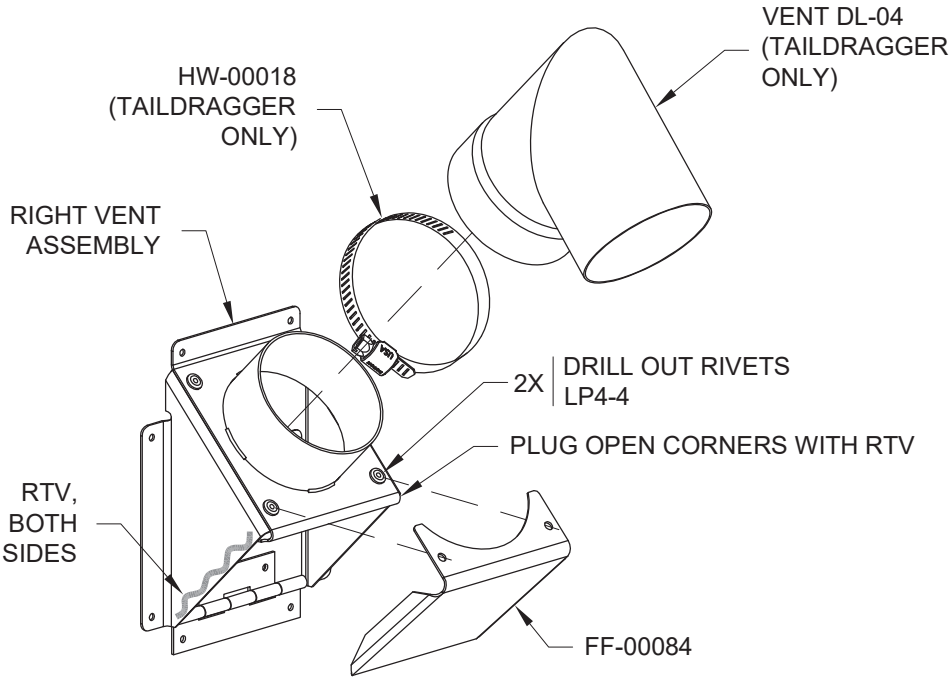

FIGURE 3A: MODIFY RIGHT VENT ASSEMBLY
Step 6: Modify the Right Vent Assembly as shown in Figure 3A.